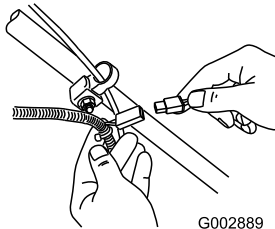

Figure 31
1. Connect the charger to the machine wire harness located below the ignition key (Figure 31).